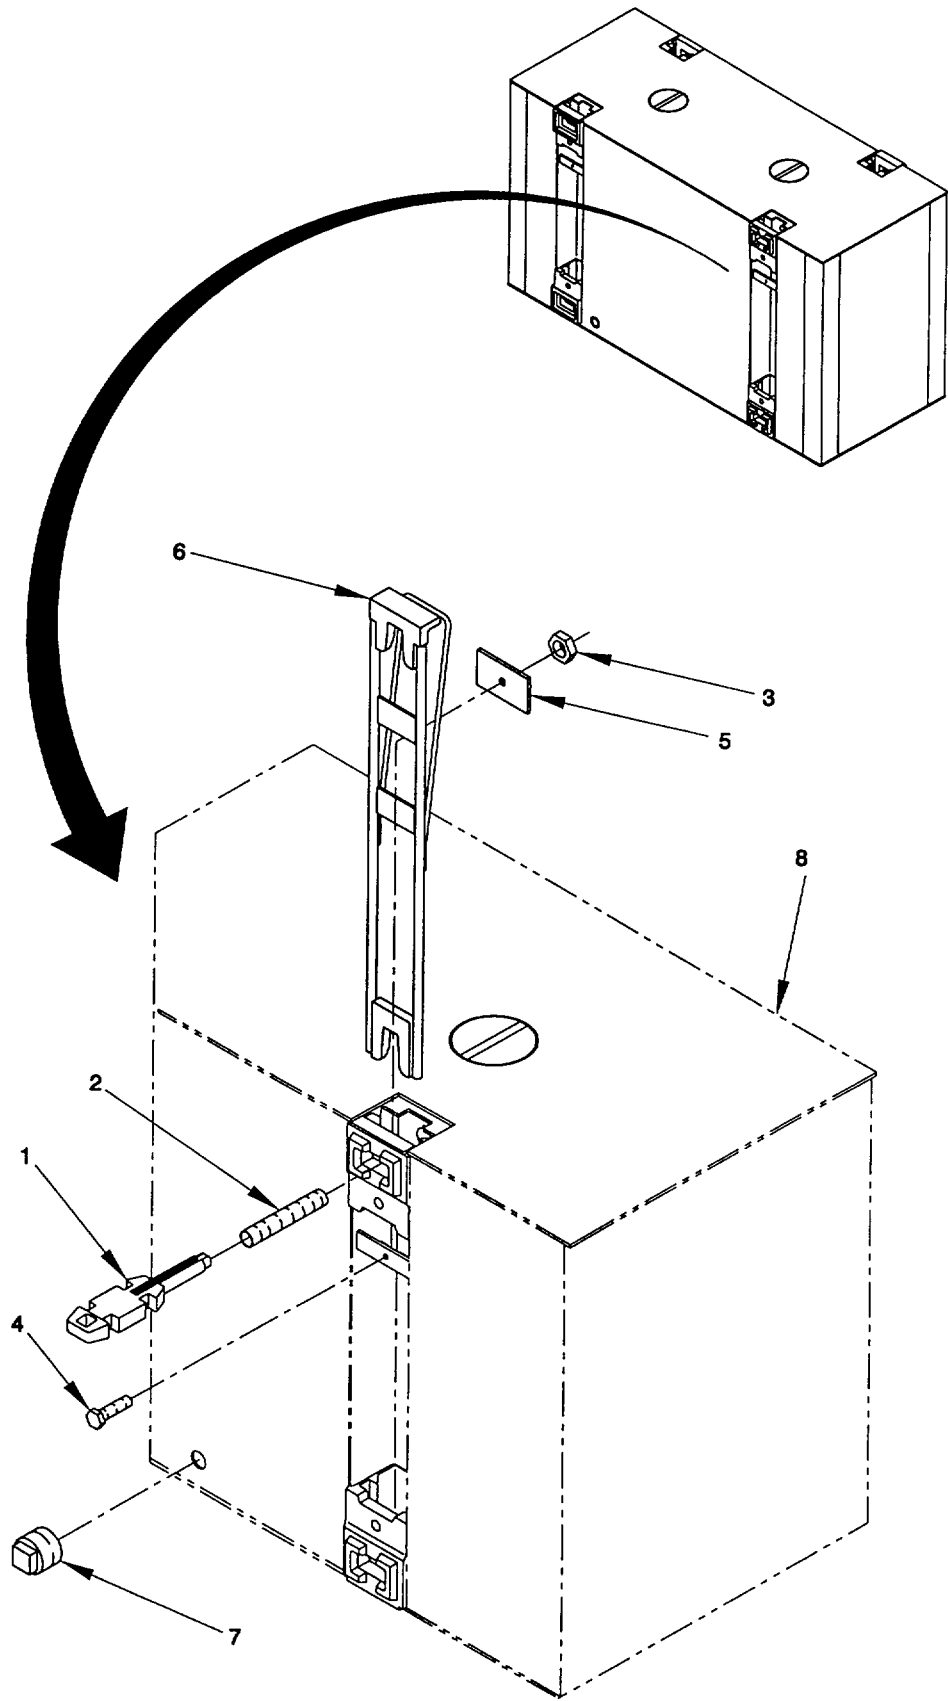

Figure 2-187. P3 Adaptor Assembly, Service/Repair.
a. Service. (figure 2-187)
- (1) Check and lubricate connector assemblies.
- (2) Push up on retainer on underside of connector pin to release pin from male connector assembly housing. Remove connector pin to expose deployment spring. Remove spring and inspect spring for cracks or cuts (replace as necessary). Lubricate spring using a light coat of lubriplate grease.
- (3) Wire brush and spot paint any exposed or rusting surfaces.
b. Repair. (figure 2-187)
- (1) Remove interlock connector (1) and connector pin spring (2) in two places from each connector.
- (2) Remove hex nut (3), hex bolt (4), locking plate (5) to free interconnect guillotine (6).
- (3) Remove pipe plug (7) from module (8) and allow any water and sediment to drain from module.
- (4) For each of the six connectors, replace interconnect guillotine (6), position locking plate (5), and secure with hex bolt (4) and hex nut (3).
- (5) Grease each connector pin spring (2). Replace spring (2) and interlock connector (1) in two places on each connector subassembly.